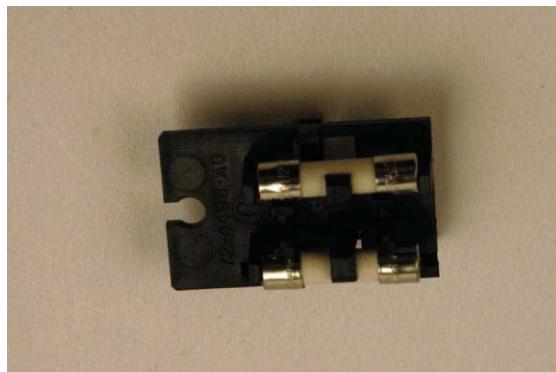

Figure 13
Step 3: Turn the fuse holder upside down to reveal the set of two fuses, as shown in Figure 13, and replace the fuses as necessary (be careful not to break the retaining posts).